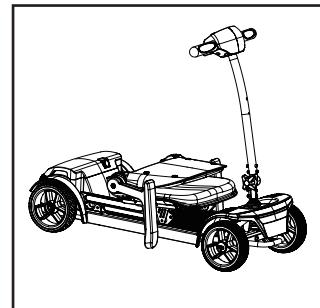

Figure 11
3. Adjust the Armrests: Fold down the left and right armrests one after the other until they rest flat against the seat (see figure 11).